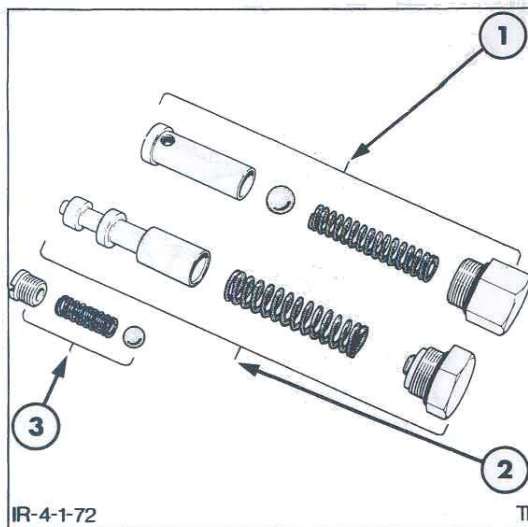

Figure 81
7. Inspect the by-pass valve seat and ball for scratches and pitting, Figure 81. If scratch marks cannot be removed by polishing, install new parts during
8. Inspect the regulating valve spool, Figure 81 for excess wear, grooves or scratches that may cause the spool to malfunction. If scratch marks cannot be removed by polishing, install new parts during assembly. Check the spring and if suspect, measure spring dimensions, see "Specifications" – Chapter 3.